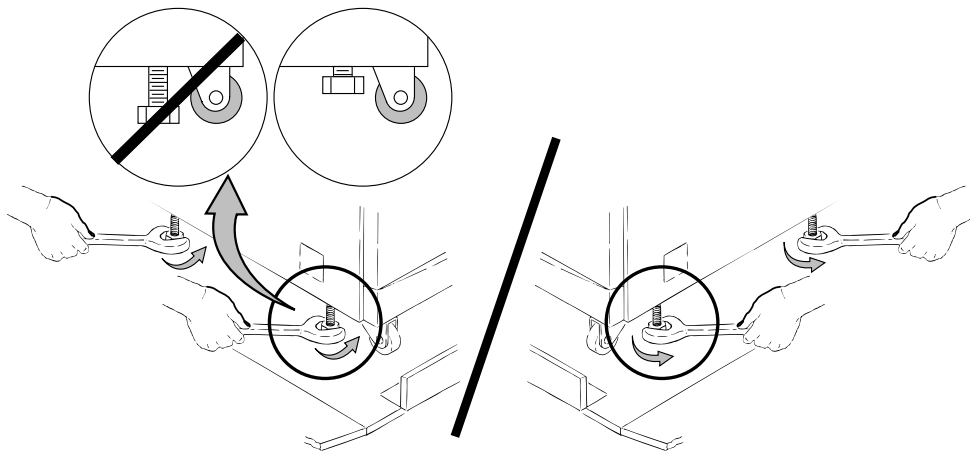

Figure A-13 Raising the Leveling Bolts
2. Use a wrench to raise all four leveling bolts by turning the leveling bolts counter-clockwise as far as they will go. See Figure A-13.